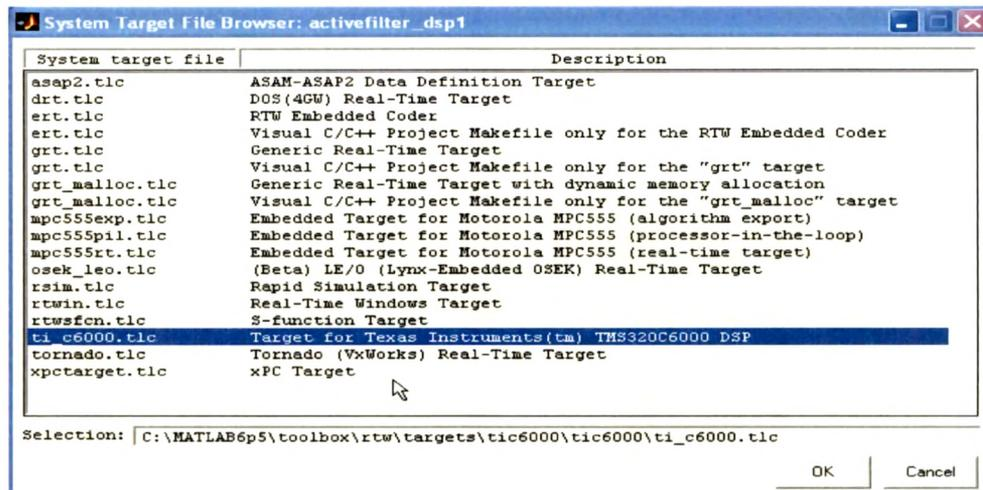

Fig. 8.37 Target File Browser
- Click the **Browse** button next to the **System target file** field. This opens the System Target File Browser (Fig 8.37).